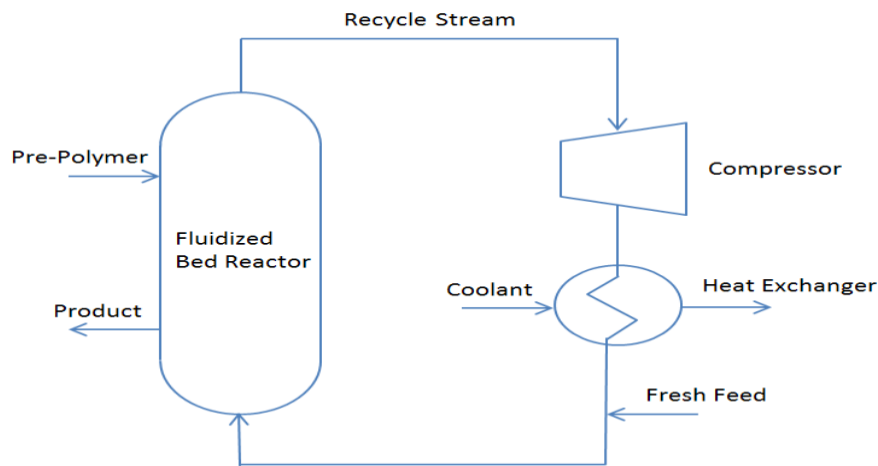

Fig5 Gas phase polymerization
- Vapour phase polymerization, also called gas phase or gas fluidized bed polymerization, is a widely used polymerization technique for gaseous monomers such as ethylene (LDPE, HDPE), tetrafluoroethylene (PTFE), and vinyl chloride (PVC). Many other common thermoplastic polymers can be made by this method. This includes high volume resins such as propylene (PP), methyl methacrylate (PMMA), methyl acrylate (PMA), vinyl acetate (PVA), ethylene vinyl acetate (PEVA) and many other polymers that are stable in the gaseous phase. On an industrial scale, however, vapour phase polymerization is mainly used to produce HDPE, LDPE, and PEVA.
- A simplified flow diagram of the process is shown in the figure5 below. A highly purified (olefinic) monomer gas is continuously fed into a fluidized bed reactor and combined with a dry-powder catalyst.